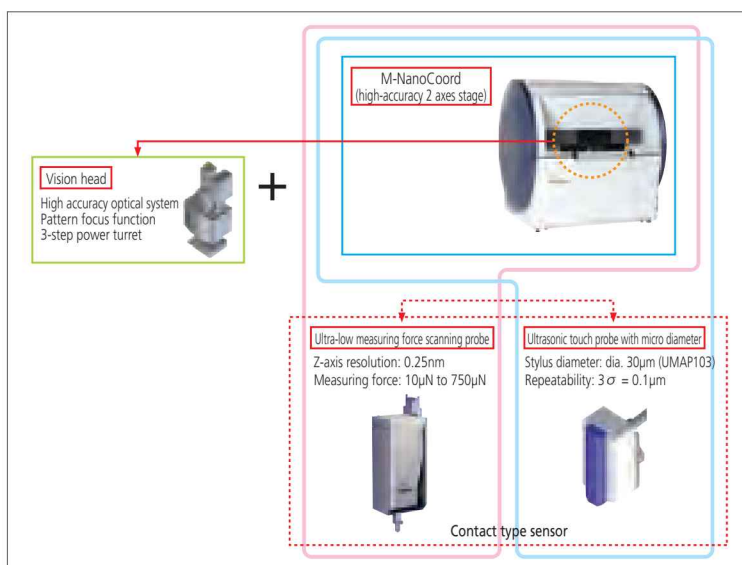

Figure 1: M-NanoCoord system block diagram
- Any one of the sensors shown in Figure 1 below is mountable to suit the application.